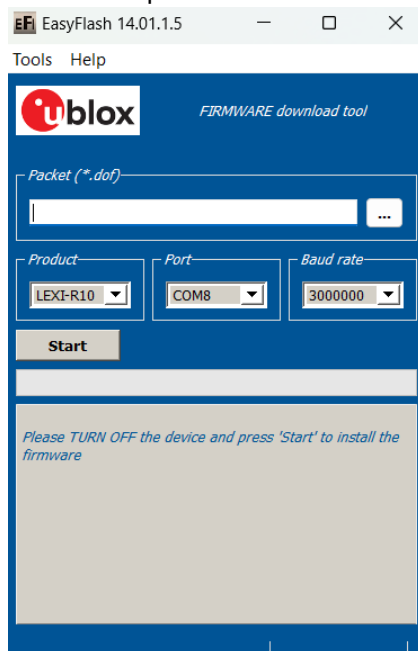

Figure 4: EasyFlash, select the ".dof" file path
1. Select the path to the FW .dof flash file in the main window of the tool (see Figure 4).